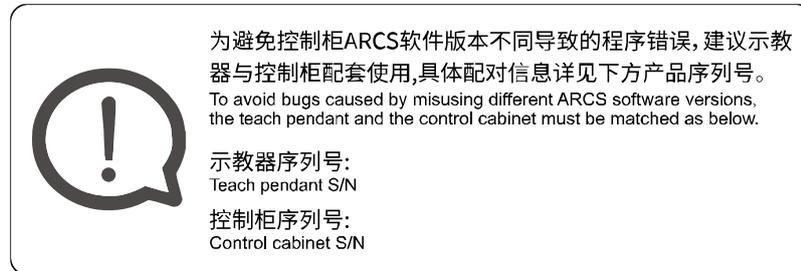

Figure 2-5 The position of the nameplate of the teach pendant and the matching label
Please refer to Figure 2-5 for the contents of the matching label of the teach pendant, please confirm:
- The serial number of the teach pendant in Figure 2-5 is consistent with the serial number on the nameplate of the teach pendant;
- The serial number of the control cabinet in Figure 2-5 is consistent with the serial number on the nameplate of the connected control cabinet.